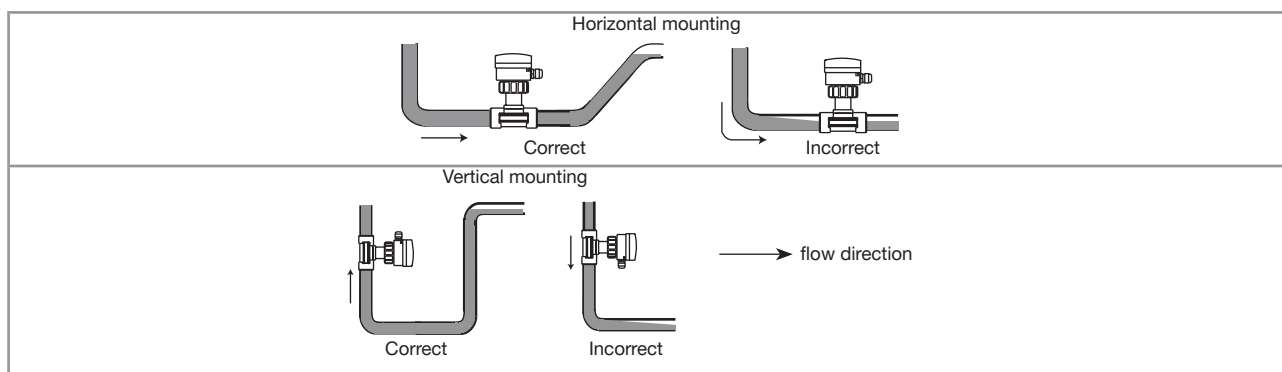

Fig. 5: Filling of the pipe
- Ensure that the pipe is always filled in the section around the device (see Fig. 5).
- When mounting vertically ensure that the flow direction is in an upward direction (see Fig. 5).